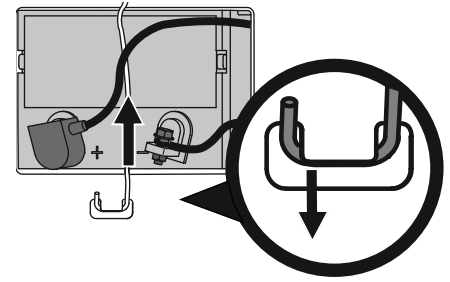

Figure 14
1. Remove the battery hold down bracket by pushing the hooked end out of the tab on the fender to the right side of the battery. Then flip the battery hold-down bracket up to free the battery. See Figure 14.